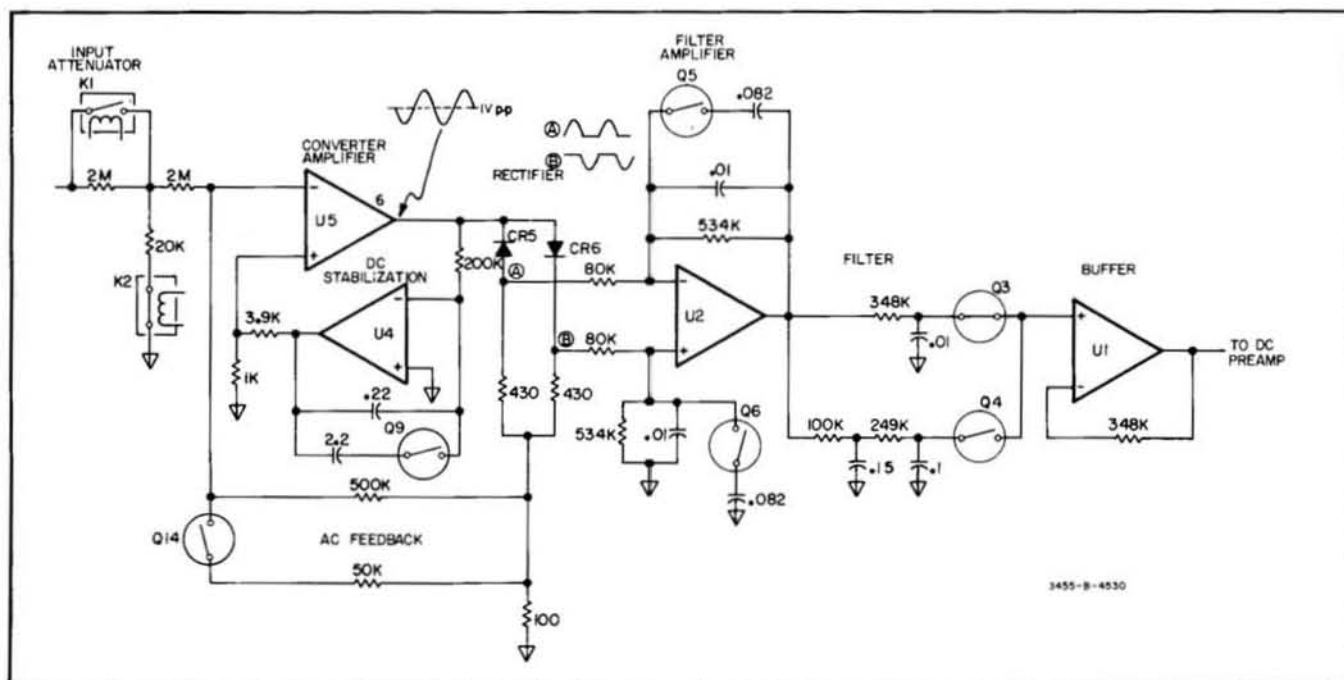

Figure 8-20. Simplified Average Responding AC Converter.
8-58. The average ac converter is an average responding circuit calibrated to the rms value of a sinusoidal input. Full scale output of the converter is 6.6667 V dc for all ranges. Figure 8-20 shows a simplified schematic of the converter.
**8-63. Rectifier and Filter Amplifier.** The output of the Converter Amplifier is applied to a rectifier circuit which produces both a positive going and a negative going half-wave rectified signal output (see Figure 8-20). The rectified signals are summed to provide ac feedback for the Converter Amplifier. The Filter Amplifier has a fixed gain of approximately 6.6. The feedback circuitry of the Filter Amplifier provides one pole of filtering. The output of the Filter Amplifier is applied to a one pole RC filter network for FAST ACV operation and a two pole RC filter network for ACV operation.